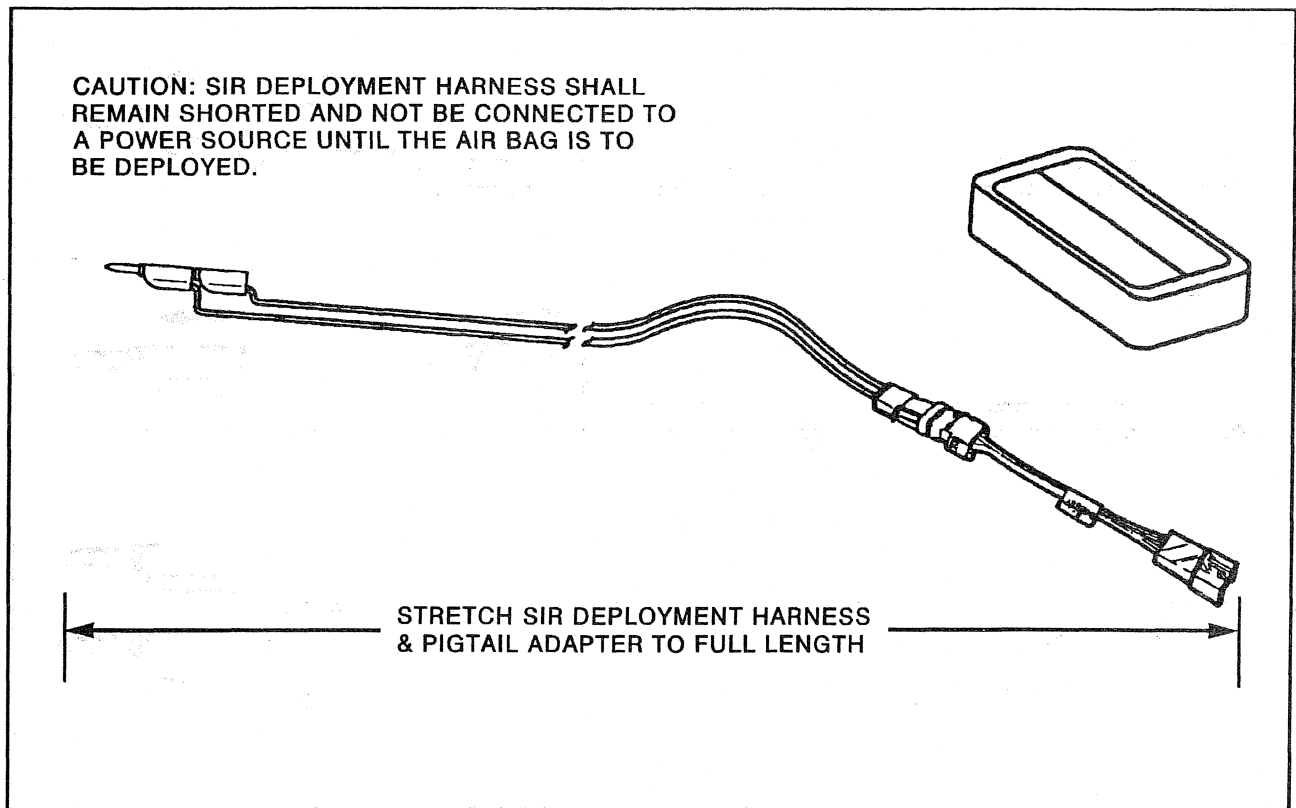

Figure 17—Stretching the SIR Deployment Harness and Pigtail Adapter
11. Stretch the SIR deployment harness and pigtail adapter from the inflator module to its full length (Figure 17).